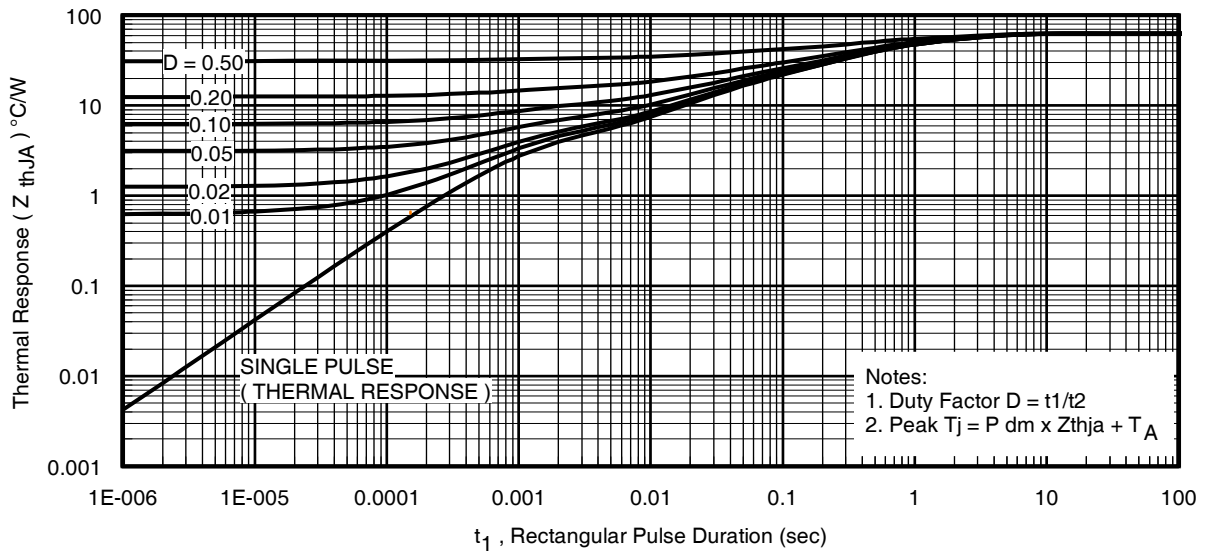

Fig 16. Typical Effective Transient Thermal Impedance, Junction-to-Ambient
- ① Repetitive rating; pulse width limited by max. junction temperature. (See fig. 16)
- ② Pulse width ≤ 400μs; duty cycle ≤ 2%.
- ③ Surface mounted on 1 in square Cu board
- ④ R_θ is measured at T_J approximately 90°C